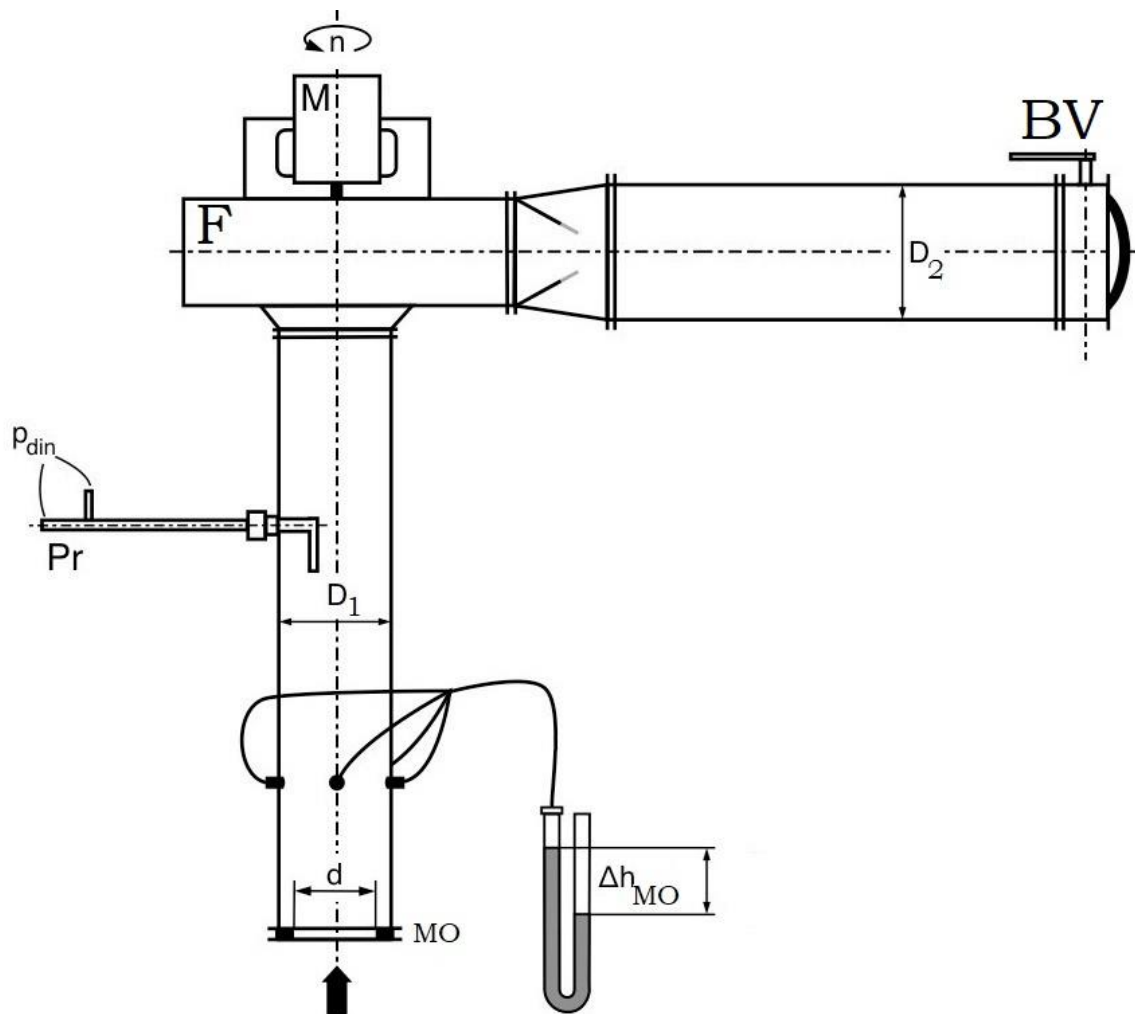

Fig. 3.4.: Sketch of the measuring equipment, instrumentation, Prandtl tube measurement
A sketch of the measuring equipment is given in Fig. 3.4. The airflow machine is the fan (F). The device driving this fan is the electric motor M, rated at $n = 1440 / \text{min}$. The measuring arrangement is such that a straight cylindrical tube section is connected to the fan on both the suction and pressure sides. The flow rate is measured with a metering orifice (MO), for details see Section 2.